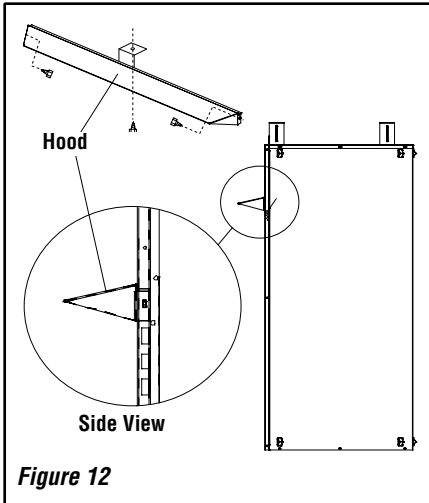

Figure 12
NOTE: This hood is optional. See Figure 12.
Step 2. Align the hood with the holes in the side frames as shown in Figure 12. Install three screws as shown in Figure 12. Make sure hood is level and secure.